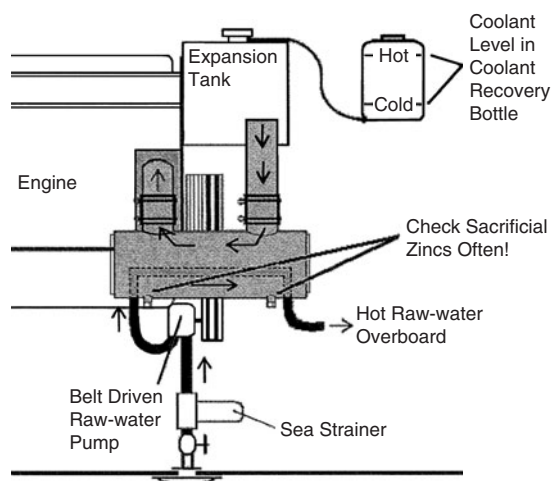

Fig. 1-6. A freshwater cooling system, showing a simplified heat exchanger. There is antifreeze in the freshwater side.
Fig. 1-2. Checking the coolant level indicator on a workboat. Many diesel power and sailing yachts also have this feature. If yours doesn't, you'll need to check the coolant level in an expansion tank as in Figure 1-6. (Courtesy MER Equipment, Seattle, Washington)
16. Locate the engine cooling system's raw-water strainer and its valves, if so equipped. Check the freshwater (antifreeze) side of the system (Fig. 1-6) for evidence of leaks, damage to the plumbing, or chafing of these critical hoses. Replacing depleted sacrificial zincs is also important to prevent damaging